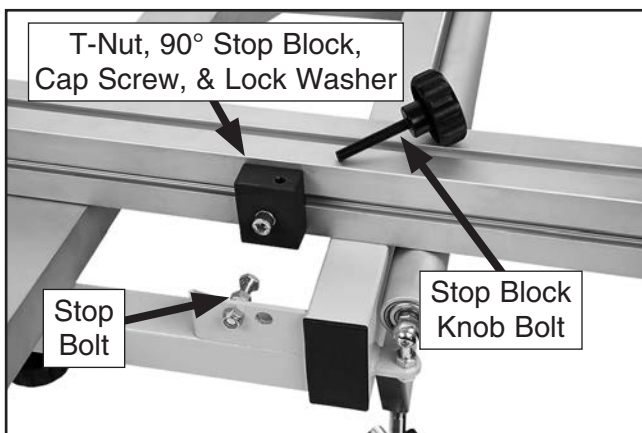

Figure 48. 90° stop block installed.
- Attach 90° stop block to T-nut with M8-1.25 x 35 cap screw and 8mm lock washer so that it is aligned with stop bolt (see **Figure 48**).